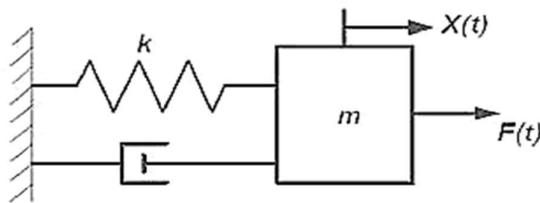

FIGURE 2
- (b) Explain how to represent using bond graph method for the given below system in (16) figure 2.